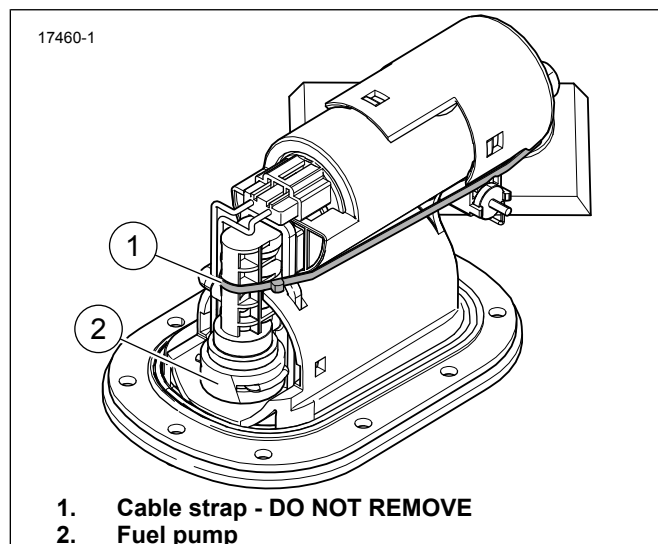

Figure 2. Fuel Pump - 61200001A
- See Figure 2. **61200001A**: This fuel pump is designed with a cable strap (1) installed on the pump, do not remove.